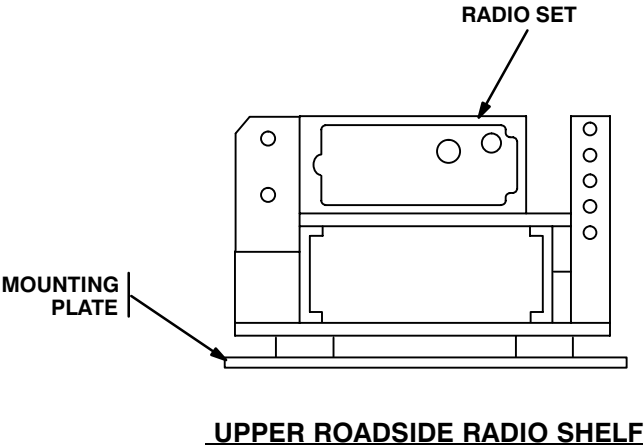

Figure 5-1 (2). MK and Radio Installation: Radio Equipment Locations
5.1.1 Installation of Antenna Base. Use the following procedures to install antenna base. See figures 5-1 (1) for location. Remove ground strap from antenna base(s).